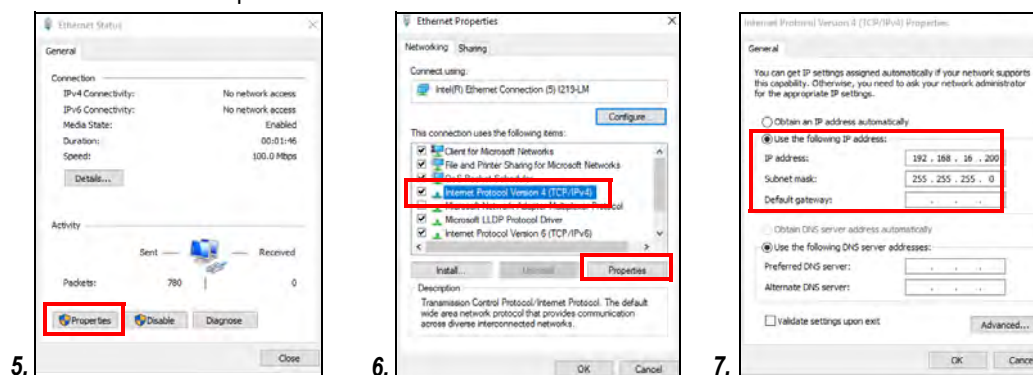

Figure 2-8. Ethernet Status
5. In Ethernet Status, click Properties. See step 5 in Figure 2-8.
6. Highlight Internet Protocol Version 4 (TCP/IPv4) and click Properties. See step 6 in Figure 2-8.
7. Toggle **Use the following IP address**. See step 7 in Figure 2-8.